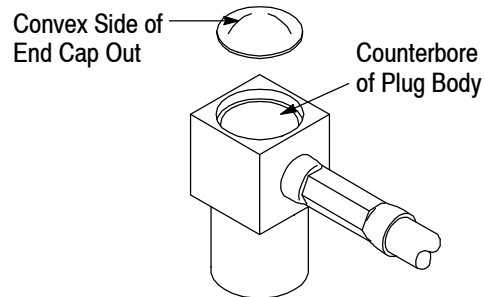
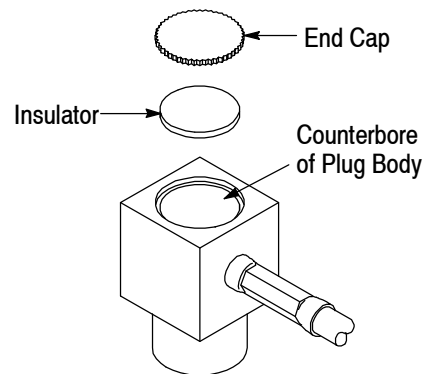

Figure 5
Figure 6
6. For Type 1 right-angle cable plugs, position the end cap into counterbore of the plug body with the convex side out. See Figure 5. For Type 2 right-angle cable plugs, place the insulator then the end cap into counterbore of the plug body. See Figure 6.